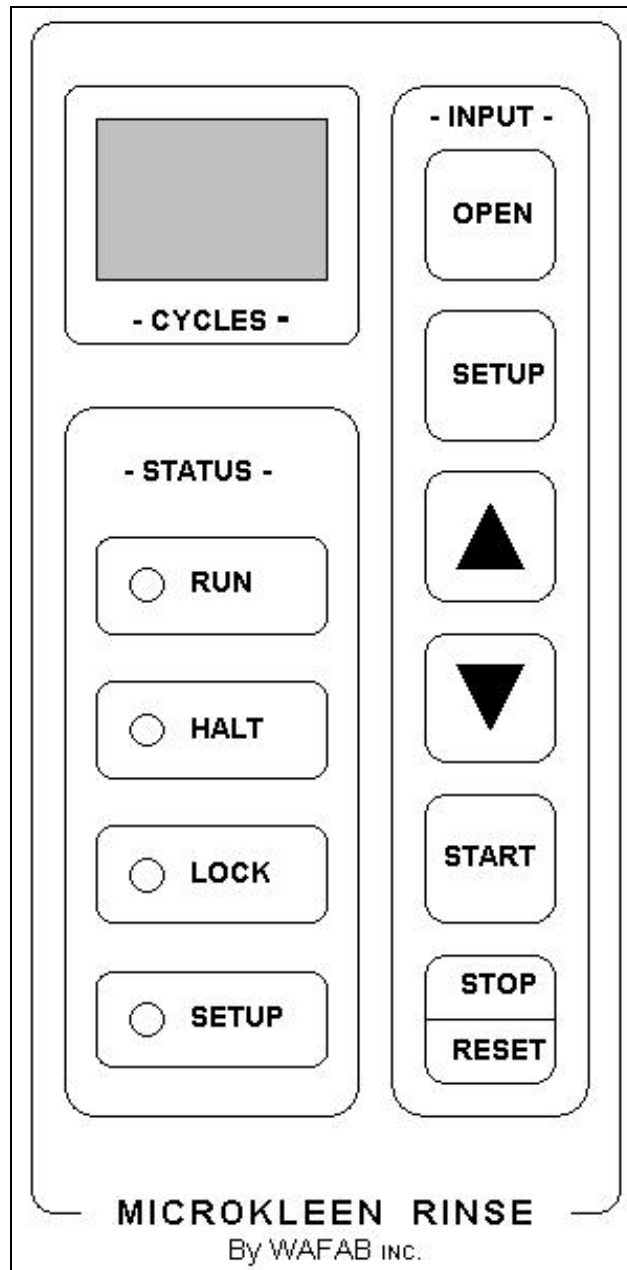
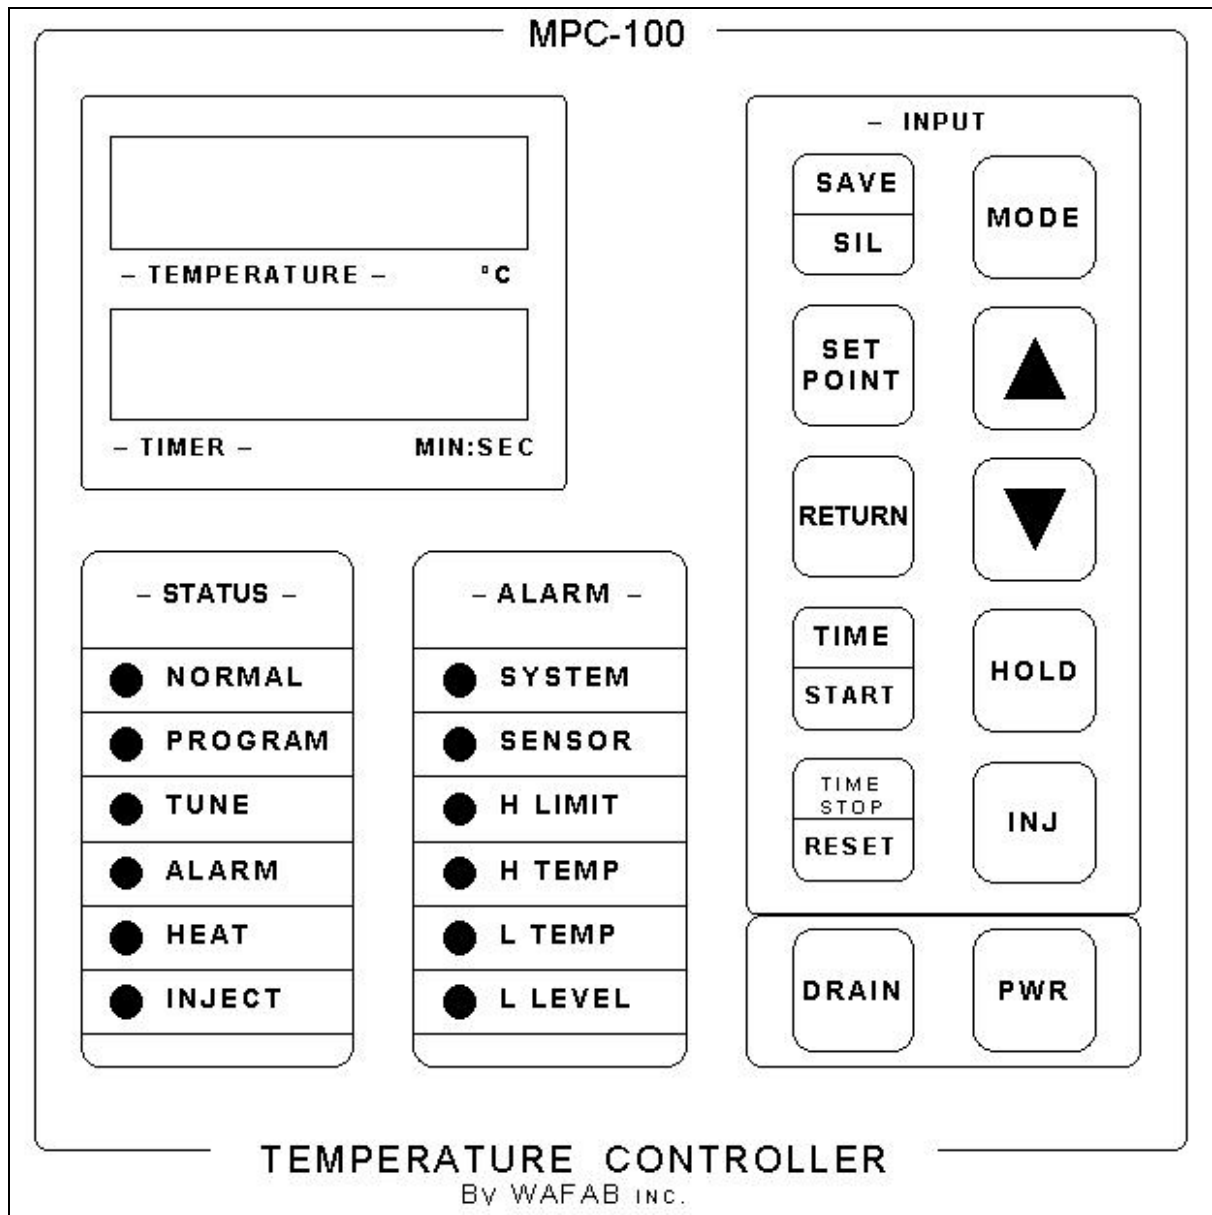

Figure 1 – Quick Dump Rinse (QDR)
Figure 2 – Hot Bath Temperature Controller
There are six control/displays at this station, see Figures 1 and 2. The three MPC-100 (Figure 2) control panels are for the heated baths: the one on the left is for the PRS-3000 (quick soak), the one in the center for the PRS-3000 (long soak) and the one on the right is for the pre-furnace metal cleaning bath. The **MICROKLEEN RINSE** (Figure 1) control panel is for the quick dump rinse (QDR) station. The QDR is currently set up for two dump rinse cycles. Wafers are initially showered with DI water followed by two DI fill-dump cycles. These cycles end with wafers submerged in the water for operator to extract and place them in SRD. See Figures & Schematics for more details. The station performs an automatic self-cleaning, every 60 minutes by one QDR cycle.
9.2.1 Place wafers in the tank; it should initially be empty, if not, press OPEN to drain it. Press **START** button to activate the dump rinse cycle (Figure 1). It will cycle down from 2 to 1 then show 0 in the display window. At the end of the two cycles a beeping alarm will sound. Press **STOP/RESET** to silence the alarm. Upon completion of two rinse cycles remove wafers and place in **SRD**.
9.4.2 Press time/start button to start the strip process cycle with the preset time and temperature (optional) (Figure 2).
9.5.1 PRS-3000 Photoreist Strip Bath (either one) (Figure 2):